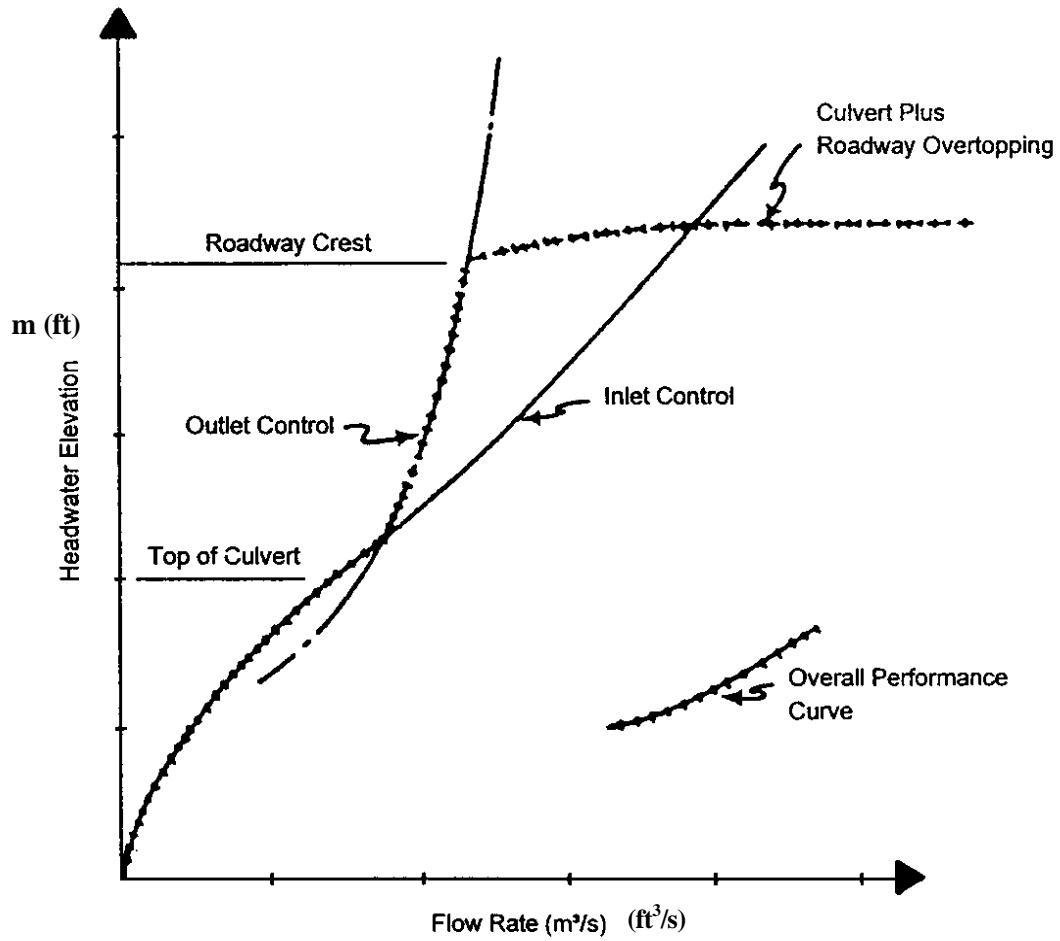

Figure 8-10 Overall Performance Curve
Performance curves are plots of flow rate versus headwater depth or elevation, velocity, or outlet scour. The culvert performance curve is made up of the controlling portions of the individual performance curves for each of the following control sections (See Figure 8-10):
4. Add the culvert flow and the roadway overtopping flow at the corresponding headwater elevations to obtain the overall culvert performance curve as shown in Figure 8-10.